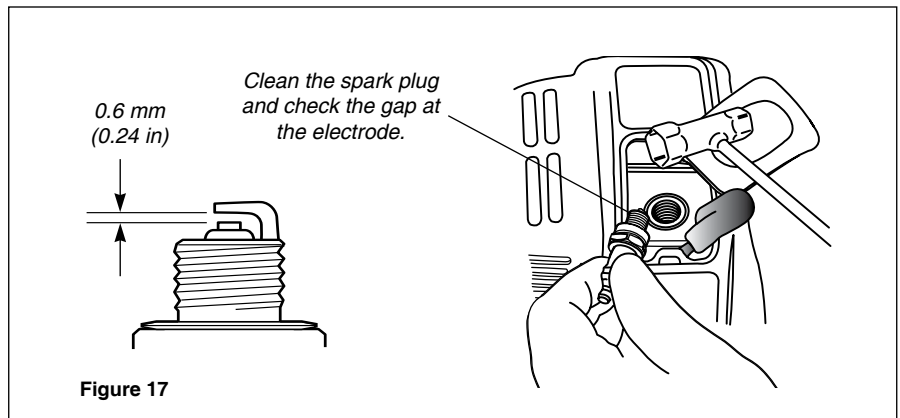

Figure 17
- Remove and clean the spark plug. Adjust the spark plug electrode gap to 0.6 mm (0.24 in). If the spark plug must be replaced, use only an NGK CMR5H or equivalent resistor type spark plug of the correct heat range. See Figure 17.